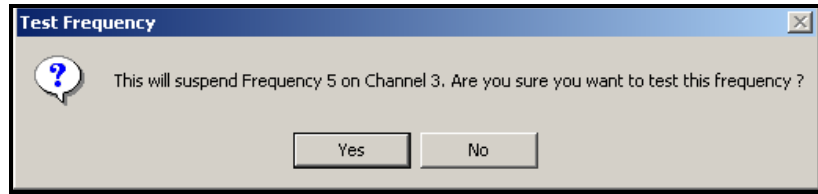

Figure 3-14: Test Frequency Prompt
2. A window similar to Figure 3-14 below should appear, asking if you want to test the Frequency. Click on Yes.